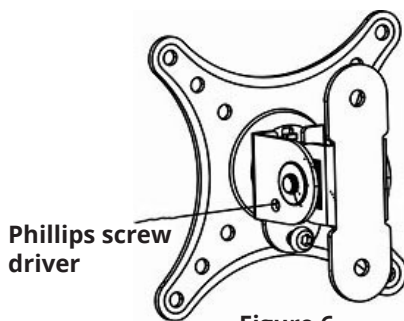
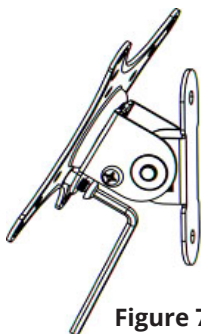

Figure 6
Figure 7
2. Tighten the safety screw on the side and back with a Phillips head screw driver and the supplied 4mm Allen Key (Figure 6 & Figure 7) respectively.